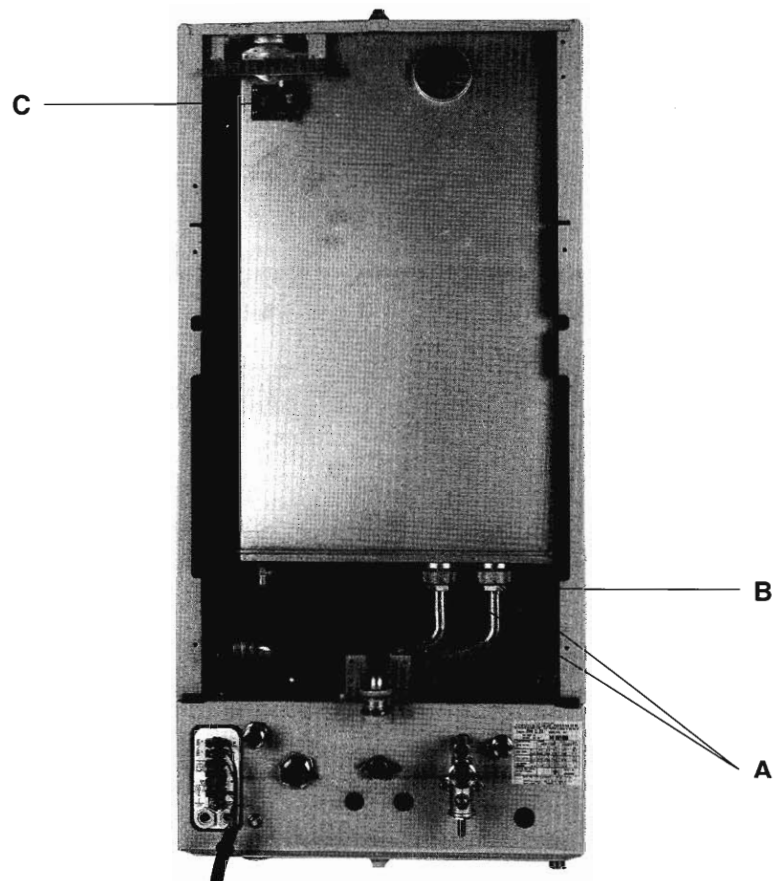

Figure 31
SECTION 21 : TO REPLACE THE AIR SAFETY SWITCH (Figure 31)
SECTION 22 : TO REPRESSURISE THE EXPANSION VESSEL (Figure 31)
SECTION 23 : TO REPLACE THE CONDENSOR (Figure 31/32)
- 23.12.** Undo the two nuts A (Figure 31).